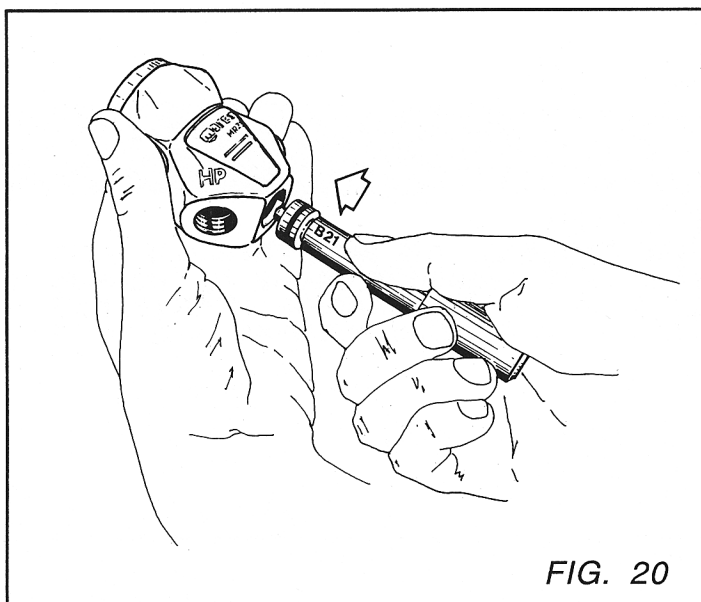

FIG. 20
3. Using light pressure, press the poppet seat into position in the first stage body (Fig 20).
4. Insert poppet (9) into first stage body.
5. Place the poppet spring (8) over the poppet stem.
6. Insert new backup ring (5) into poppet retainer (4).
7. Insert o-ring (6) into poppet retainer (4).
9. Place o-ring (71) on first stage cover (81).
10. Press locking head (80) into spring (76).